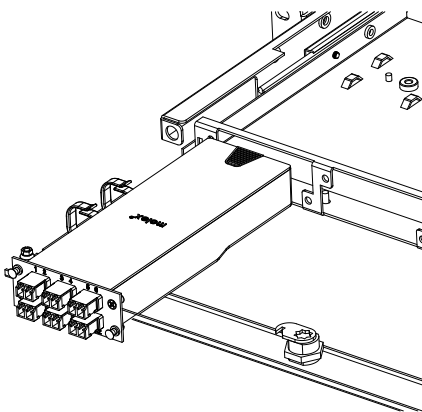
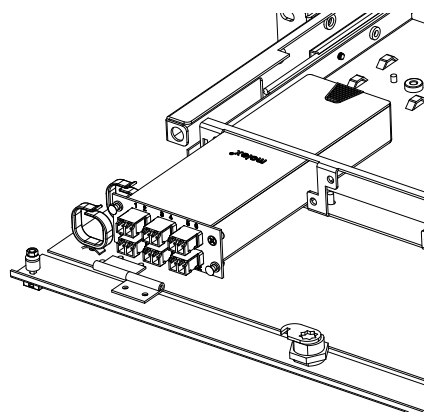
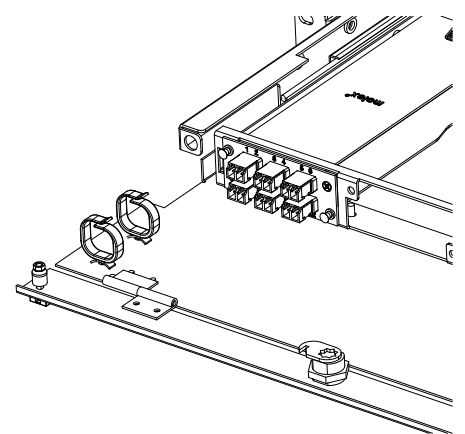

Fig.4
Fig.5
Fig.6
2. Position the cassette in the appropriate position within the enclosure and push the corner fasteners gently back until they will go no further. (Fig.4, Fig.5, Fig.6)